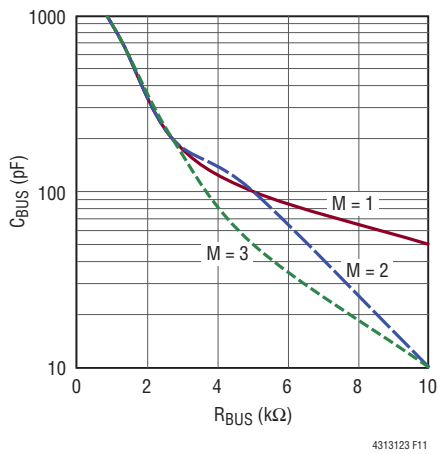

Figure 11. Recommended Maximum R_1 and C_{B1} Values for the LTC4313 Operating with Multiple LTC4300As in a 3.3V System
- For 3.3V systems, refer to Figures 11 and 12 for operation with LTC4300As and LTC4307s. In the figures,